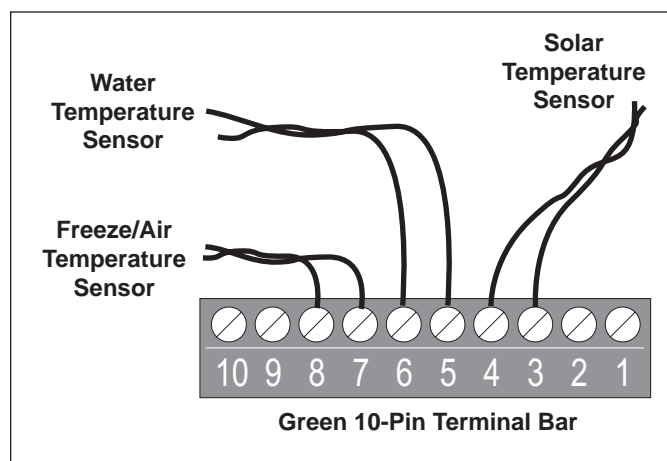

Figure 17. Temperature Sensor Wiring for a Pool/Spa Combination
4. Run the wire to the Power Center, through the low voltage raceway. Cut off excess wire. Strip the wire jacket back 6", then strip each wire 1/4". Connect sensor wires to the green, 10-pin terminal bar (see Figure 17).